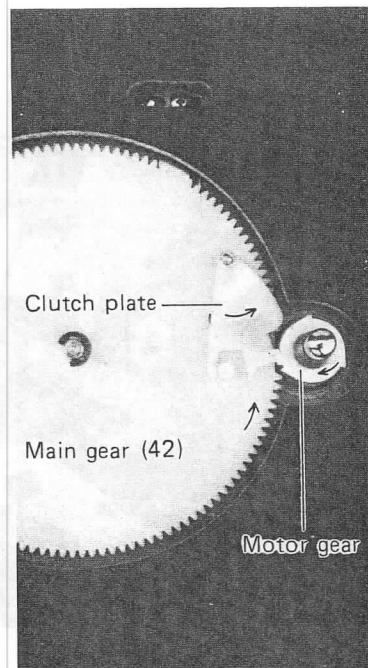

Figure 10
- (4) The other end of the Lever Switch (39) pushes the Reject Lever (22), and the Lever pushes out the Clutch Plate to connect it with the Motor Gear. (Figure 10)